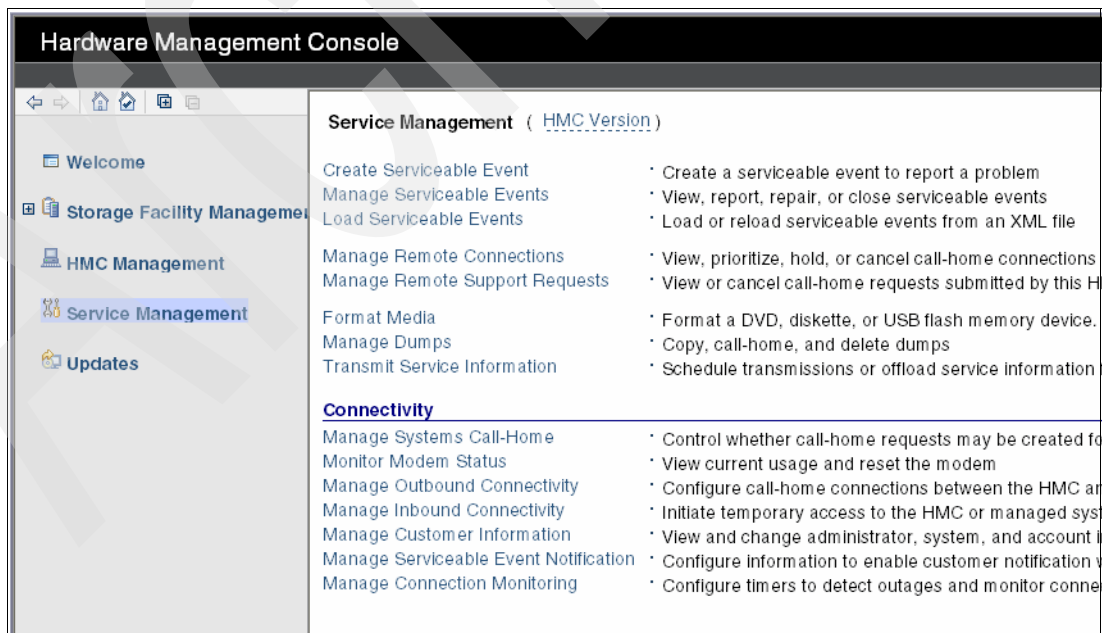

Figure 12-9 HMC WUI welcome window
2. Click **Log on and Launch the Hardware Management Console Web application**. The HMC welcome window opens, as shown in Figure 12-9.